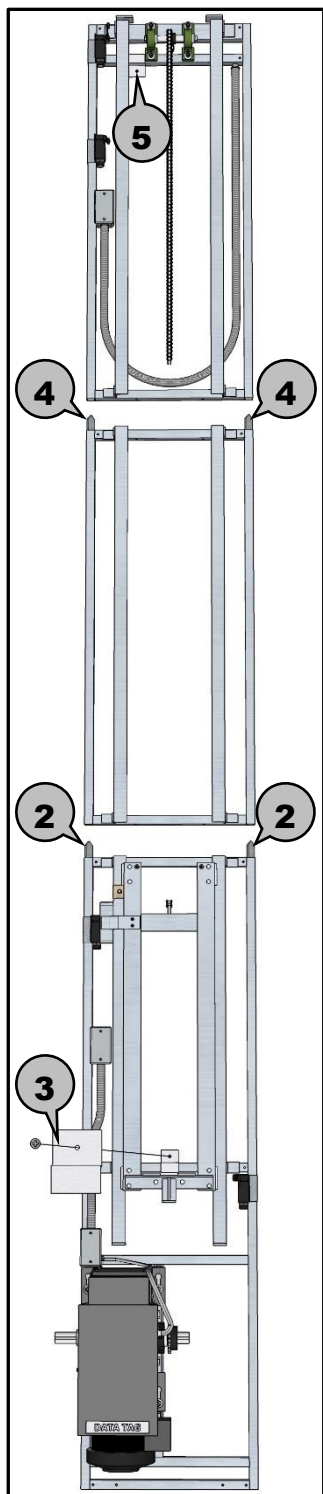

Figure 2
- 2** Drop two (2) stacking pins into the top of the two outer vertical tubes of the bottom section, and position section centered against the mounting wall. (**see Figure 2**)
- 3** Use provided frame clip and 2" screw to temporarily hold section in place against the wall. Make sure screws go into solid wood. (**see Figure 2**)
- 4** Drop two (2) stacking pins into the top of the two outer vertical tubes of the next section, and position section on top of previous section using the stacking pins to guide it into place centered against the mounting wall. (**see Figure 2**)
- 5** Use provided frame clip and 2" screw to temporarily hold section in place against the wall. Make sure screws go into solid wood. (**see Figure 2**)